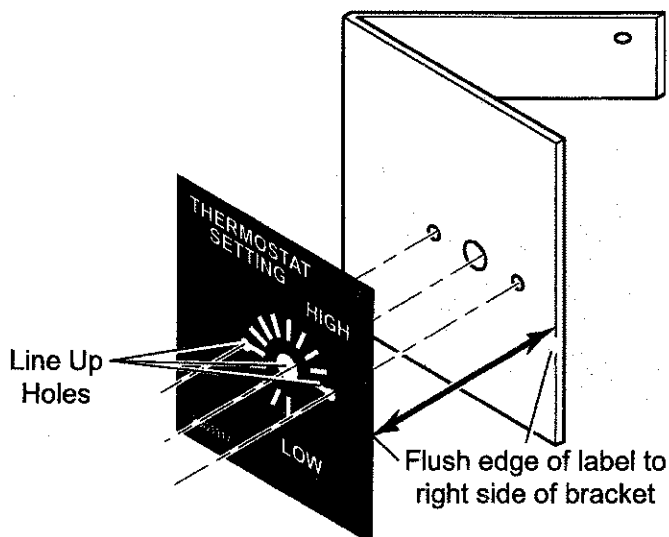

Figure 21 - Applying Label to Bracket
2. Peel away the paper backing on the label. Line up holes in label with holes on the bracket. Right side of label should flush with right side of bracket. See Figure 21. Press label firmly and smoothly to bracket.